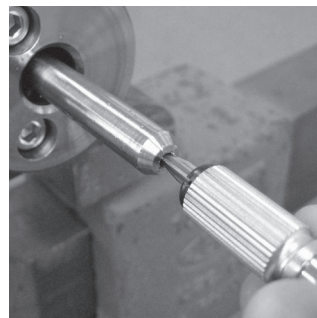

Fig. 37 Deburr the tube ID
14. Deburr the tube ID with the provided deburring tool. (Fig. 37)